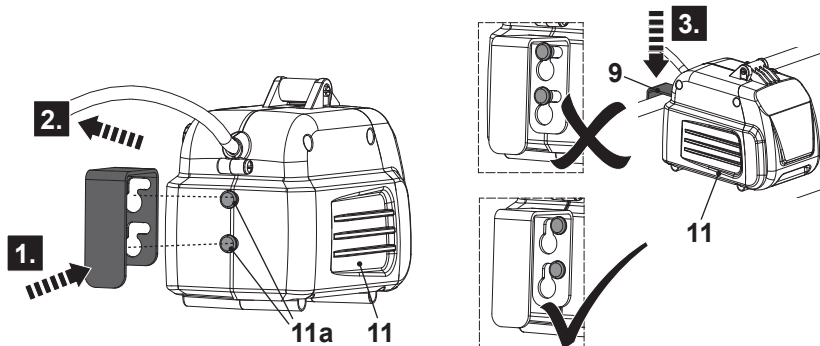

Fig. 10
1. Align and pass two eyelets (9a) of hook (9) to the spigots (11a) of battery compartment (11) (Fig. 10, step 1).
2. Secure the hook (9) in place by sliding the eyelets (9a) until the stop (Fig. 10, Step 2).
3. Hang the battery compartment (11) onto a sturdy frame (Fig. 10, step 3).
4. Secure battery compartment (11) to prevent it from slipping or falling over.